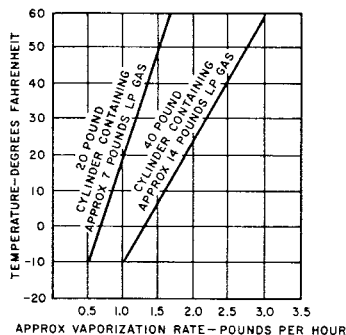

Fig. 7—Vaporization Rate—One-Third Full
**6.04** The approximate vaporization rate of LP-Gas Cylinders (each cylinder one-third full of LP-Gas at various temperatures) is shown in Fig. 7.